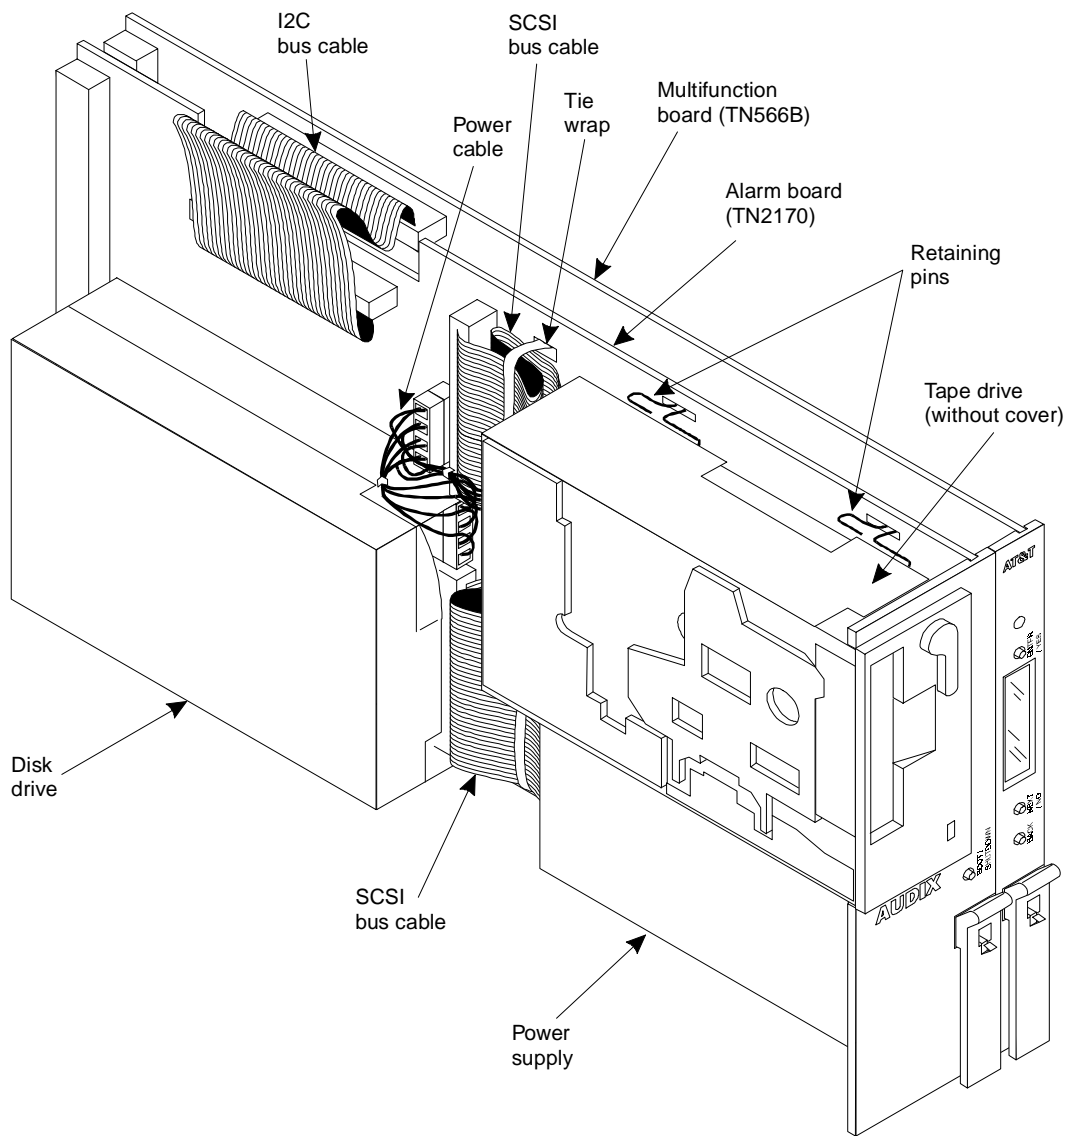

Figure 2-2. DEFINITY AUDIX System Assembly
5. Insert the DEFINITY AUDIX system assembly (see Figure 2-2., DEFINITY AUDIX System Assembly) into the switch cabinet as follows: